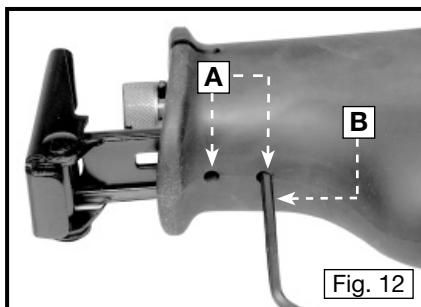

Fig. 12
Use the supplied hex wrench to adjust the pivoting guide shoe. Loosen the two hex screws located on the bottom of the front gear housing (A) Fig. 12. Loosen both screws enough to allow the pivoting guide shoe to move freely. Adjust to the desired position and securely tighten both screws.